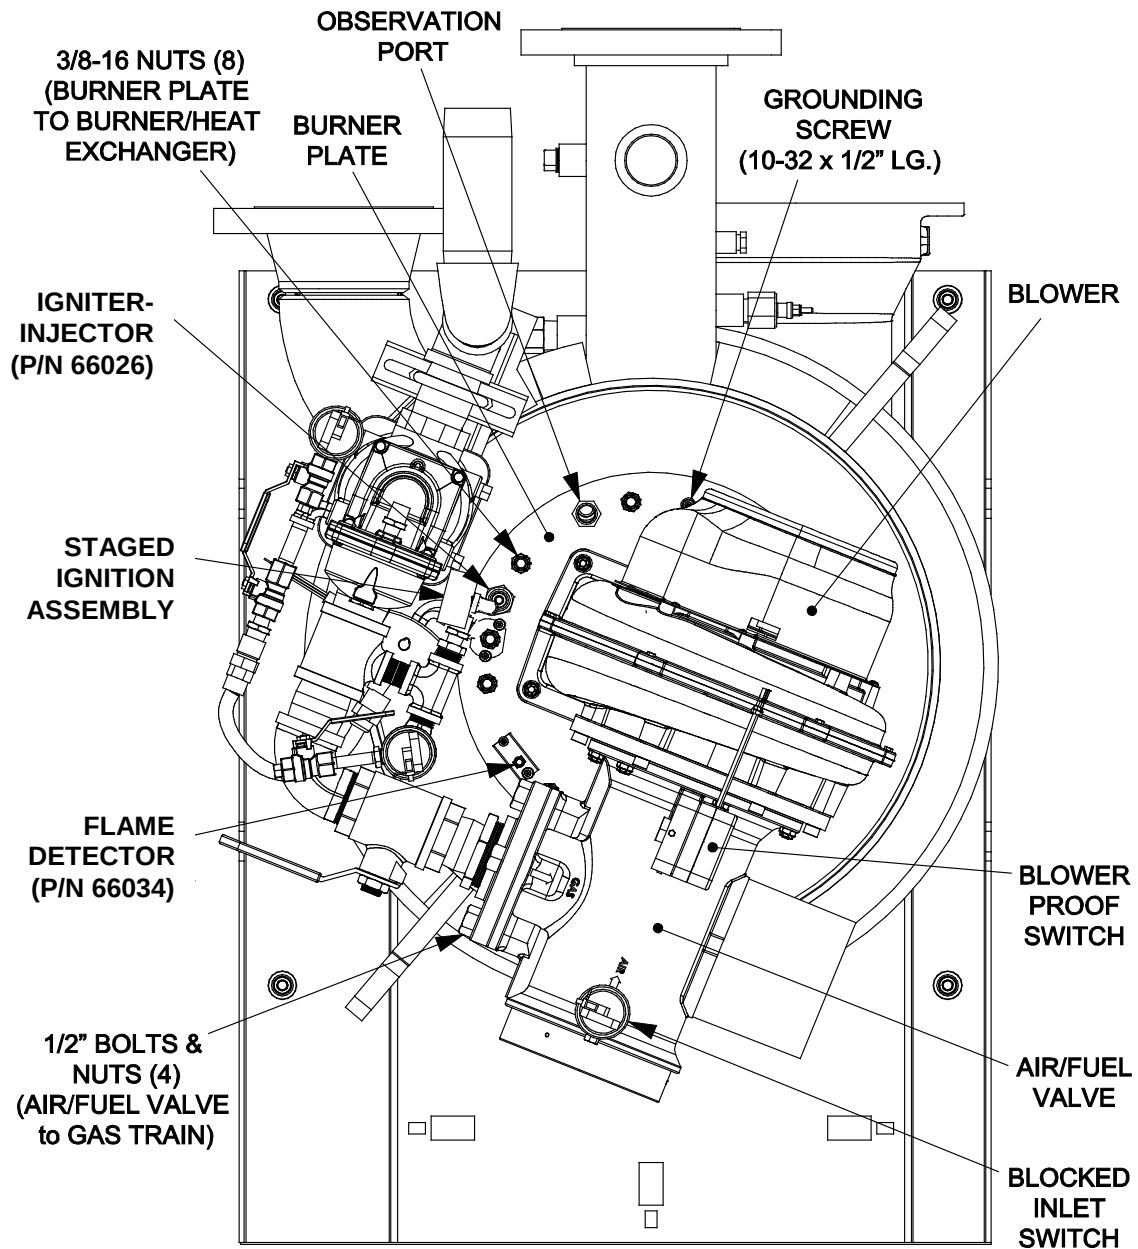
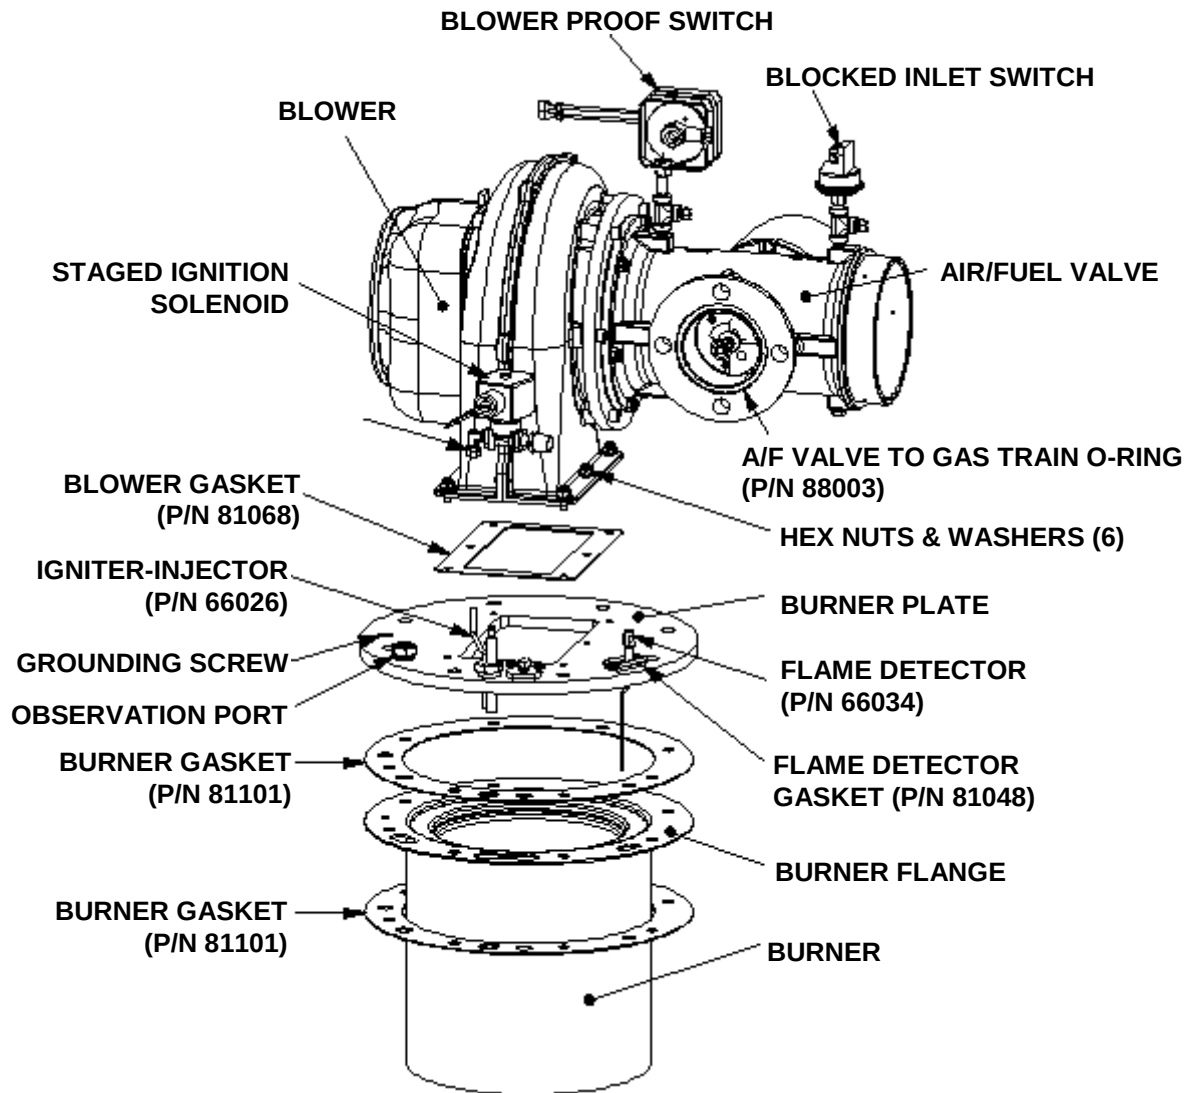

Figure 4: Benchmark 2.0LN - Top View
Figure 5: BMK2.0LN Burner Assembly - Exploded View
The Burner Assembly is located at the top of the heat exchanger as shown in Figure 4. The complete Burner Assembly for Benchmark 2.0LN also includes the Blower and Air/Fuel Valve assemblies for the unit. Figure 4 shows the Burner Assembly mounting details and Figure 5 shows an exploded diagram of the complete Burner Assembly removed from the unit.
7. Disconnect the unit wiring harness connectors from the Air/Fuel Valve and Blower motor (Figure 5).
8. Disconnect the Fast-On wire leads connected to the Blower Proof Switch and Blocked Inlet Switch (Figure 5).
9. Disconnect the Gas-Train from the Air/Fuel Valve flange by removing the four (4) 1/2" bolts and nuts (Figure 4). Remove the O-ring, which will be replaced at reassembly with the new Air/Fuel Valve to Gas Train O-ring (P/N 88003) provided in the kit.
12. Remove the six (6) 1/4-20 hex nuts and flat washers securing the Blower to the Burner Plate (Figure 5).
14. Remove the Blower Gasket that lies between the Blower and Burner Plate (Figure 5). This will be replaced during reassembly with a new gasket.
15. Remove the grounding screw on the Burner Plate (Figure 4).
16. Remove the eight (8) 3/8-16 nuts from the Burner flange (Figure 4) using a 9/16" wrench.
5. To each of the eight (8) Burner mounting studs coming up through the Burner flange, add one of the 3/8" flat washers removed during disassembly.
6. After placing the washers, apply Loctite 246 to the Burner mounting studs. While supporting the housing so it is level with the Burner flange, use a torque wrench to tighten the eight (8) 3/8-16 hex nuts on the Burner flange to 35 ± 5 ft.-lbs. Use an alternating pattern when tightening the hex nuts to ensure a uniform seal.
7. Reassemble the Air/Fuel Valve to the gas-train flange by reinstalling the four (4) 1/2" bolts and nuts (Figure 4). Replace the Air/Fuel Valve to Gas Train O-ring (P/N 88003) with the one provided in the kit. Use an alternating pattern when tightening the bolts to ensure a uniform seal.
1. Refer to Figures 4, 5, and 6 to locate the Flame Detector installation location.
1. Reinstall the grounding screw to the Burner Plate (Figure 4).